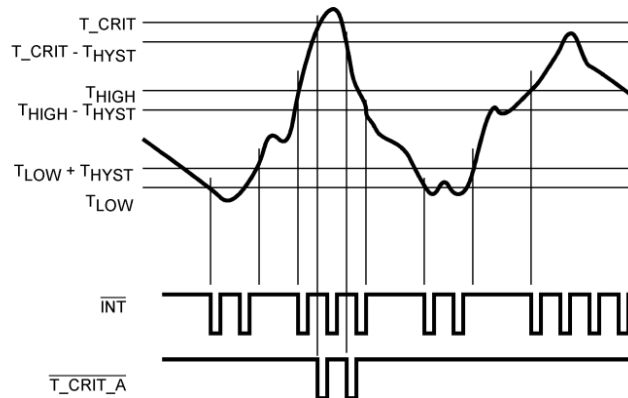

Figure 22. Extended Repetitive Interrupt Mode
**Extended Repetitive Interrupt Mode** is shown in Figure 22 and operates in the following way: Once activated, all interrupts remain activated until reset by a read of the Interrupt Status Register 1. Once activated all  $\overline{T\_CRIT\_A}$  interrupts remain activated until reset by a read of the Extended Mode Register 1. Temperature conversion data less than or equal to  $T_{LOW}$  will activate interrupt. Interrupt will continue to be activated until the temperature data exceeds  $(T_{LOW} + T_{HYST})$ . Exceeding  $T_{HIGH}$  activates interrupt. Interrupt will continue to be activated at the end of a conversion until the temperature data is less than or equal to  $(T_{HIGH} - T_{HYST})$ .  $\overline{T\_CRIT\_A}$  interrupts are activated when the temperature exceeds  $T_{CRIT}$ .  $\overline{T\_CRIT\_A}$  interrupts will no longer be activated if the temperature data at the end of a conversion is less than or equal to  $(T_{CRIT} - T_{HYST})$ .